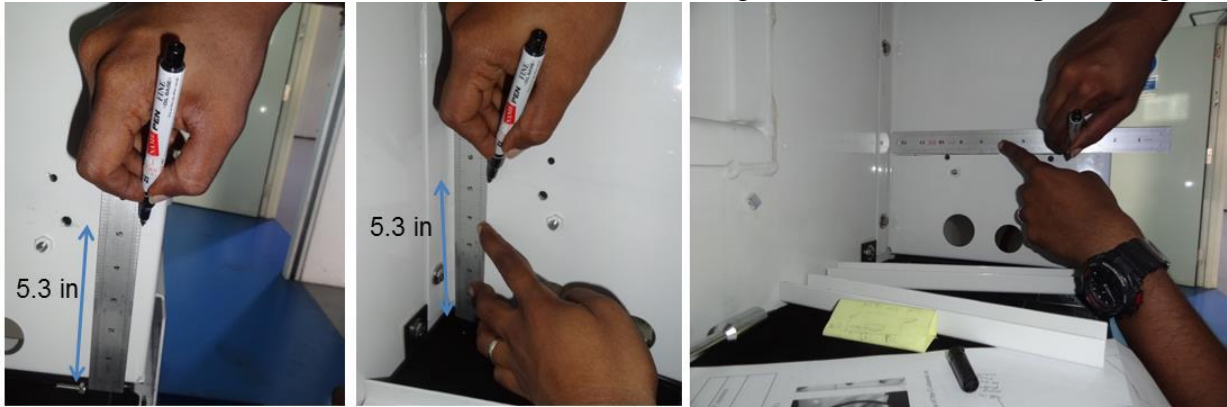

Figure 4
- From the bottom of the receiver mounting plate, measure and mark a point from a distance of **5.3in (135mm)**; draw a connecting line between the two points (Figure 4).